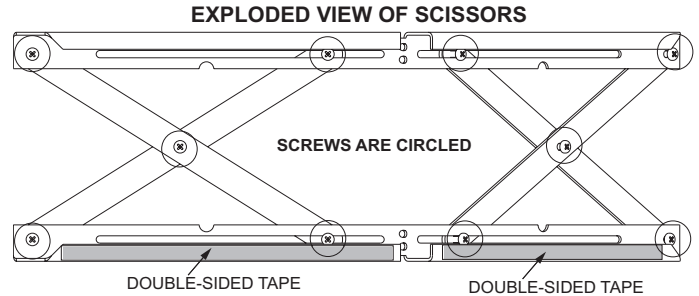

Figure 16A
1. The 10 screws on each set of scissors will already be loose when shipped. **See Figure 16A.**